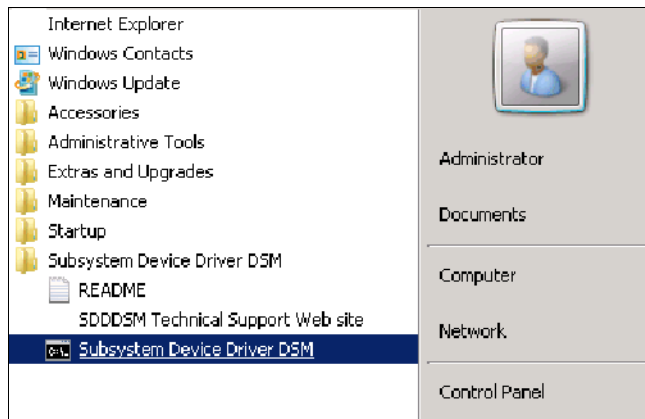

Figure 7-10 Windows Server 2008 R2 Subsystem Device Driver DSM utility
4. To check that the disks are available, select **Start** → **All Programs** → **Subsystem Device Driver DSM**, and then click **Subsystem Device Driver DSM** (Figure 7-10). The SDDDSM Command Line Utility is displayed.